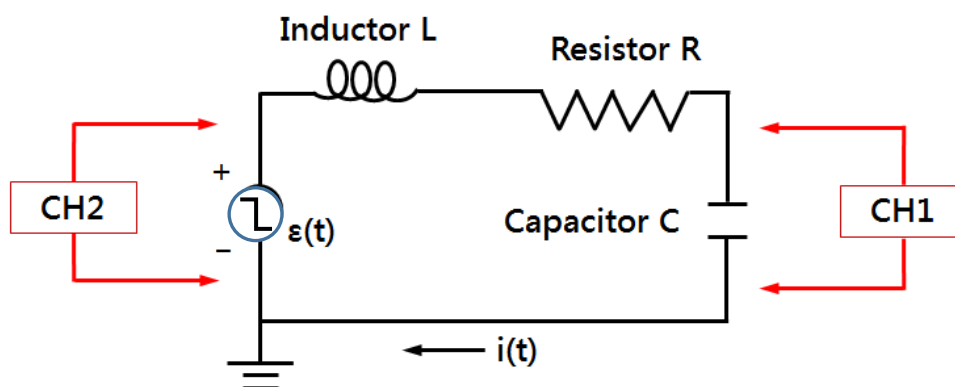

Figure 7. Circuit diagram of an RLC series circuit.
1. Connect all electronic elements as shown in figure 7.